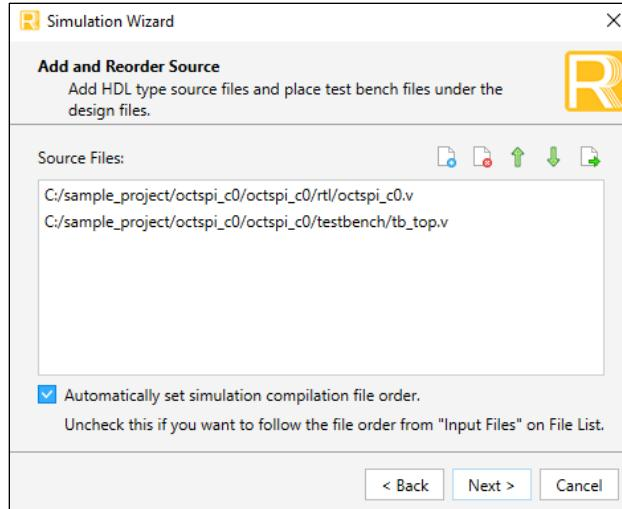

Figure 7.11. Add and Reorder Source
4. Click **Next** to open the **Add and Reorder Source** window as shown in Figure 7.11. Note that only two files are listed, `tb_top.v` and the generated IP wrapper file. If there are other files, they must be removed. Otherwise, this may cause a failure in the compilation and simulation.